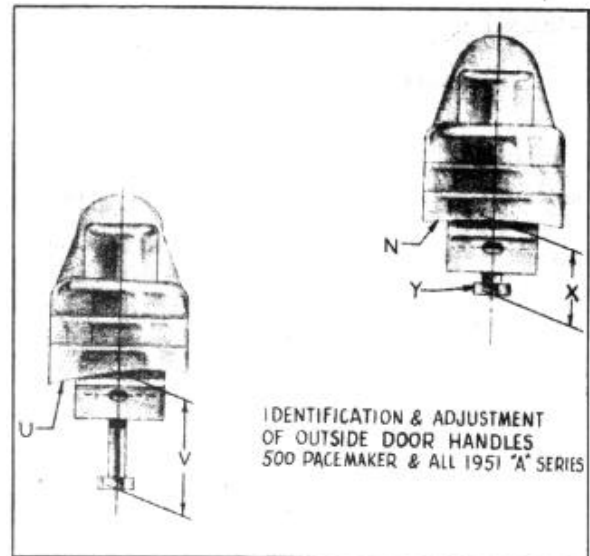

FIGURE 19
The outside door handles for the 500 model Pacemaker and the door handles for the "1951 "A" Series all Models", are identical except for the distance the end of the adjustable plunger (Y), Figure 19, projects beyond the base of the handle.